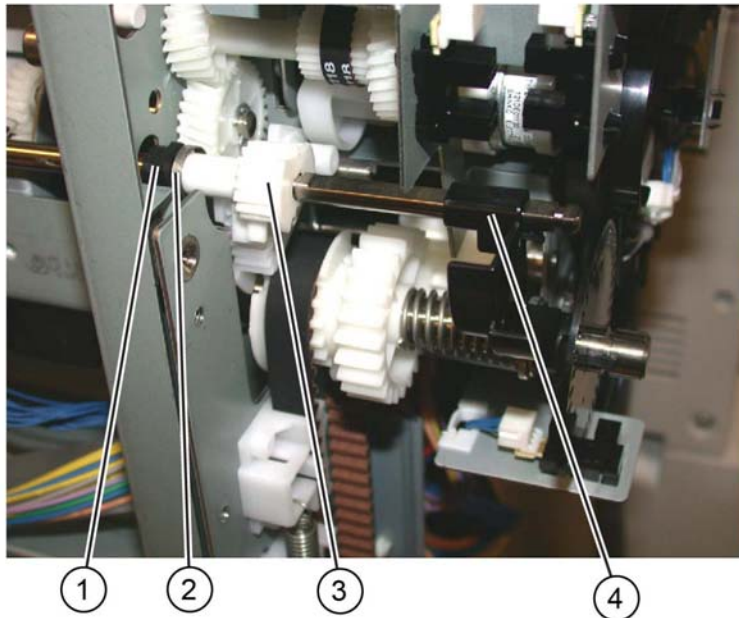

Figure 13 Bushing, spring and gear installation
5. Install the bushing, spring and gear onto the rear end of the set clamp shaft, Figure 13:
- a. Install the bushing (1).
- b. Install the spring (2).
- c. Install the gear (3).
- d. Install the stack height sensor flag (4) onto the rear end of the shaft as shown.